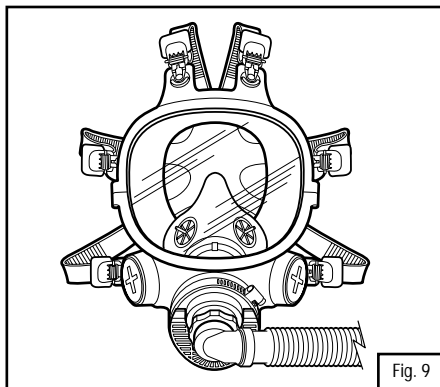

Fig. 9
5. Screw GVP-123 breathing tube elbow adapter into the center port of the 7800S facepiece inlet of the respirator. (Fig. 9) Screw the breathing tube inlet into the 3M™ PAPR outlet. Activate the unit by pushing the power switch on the battery pack.